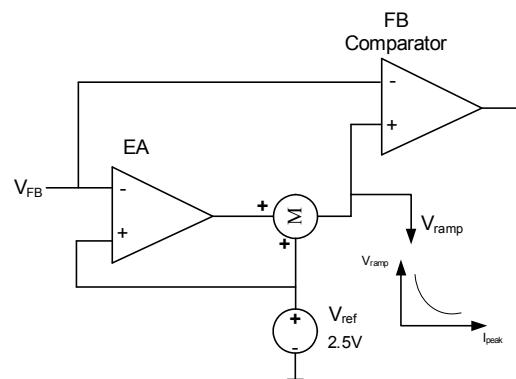

Figure 5: EA and Ramp Compensation
To improve load regulation, the MP150 implements an error amplifier (EA) compensation function (Figure 5). The MP155 samples the feedback voltage 6μs after the MOSFET turns off. EA compensation regulates the 2.5V reference voltage with the load, thus improving the power module regulation.
An internal ramp compensation circuit precisely maintains the output voltage. An additional exponential voltage sinking source pulls down the feedback comparator's reference voltage as shown in Figure 5. The ramp compensation is relative to the load conditions: Under full-load conditions, the compensation is ~1mV/μs; with a decreasing load, the compensation increases exponentially.